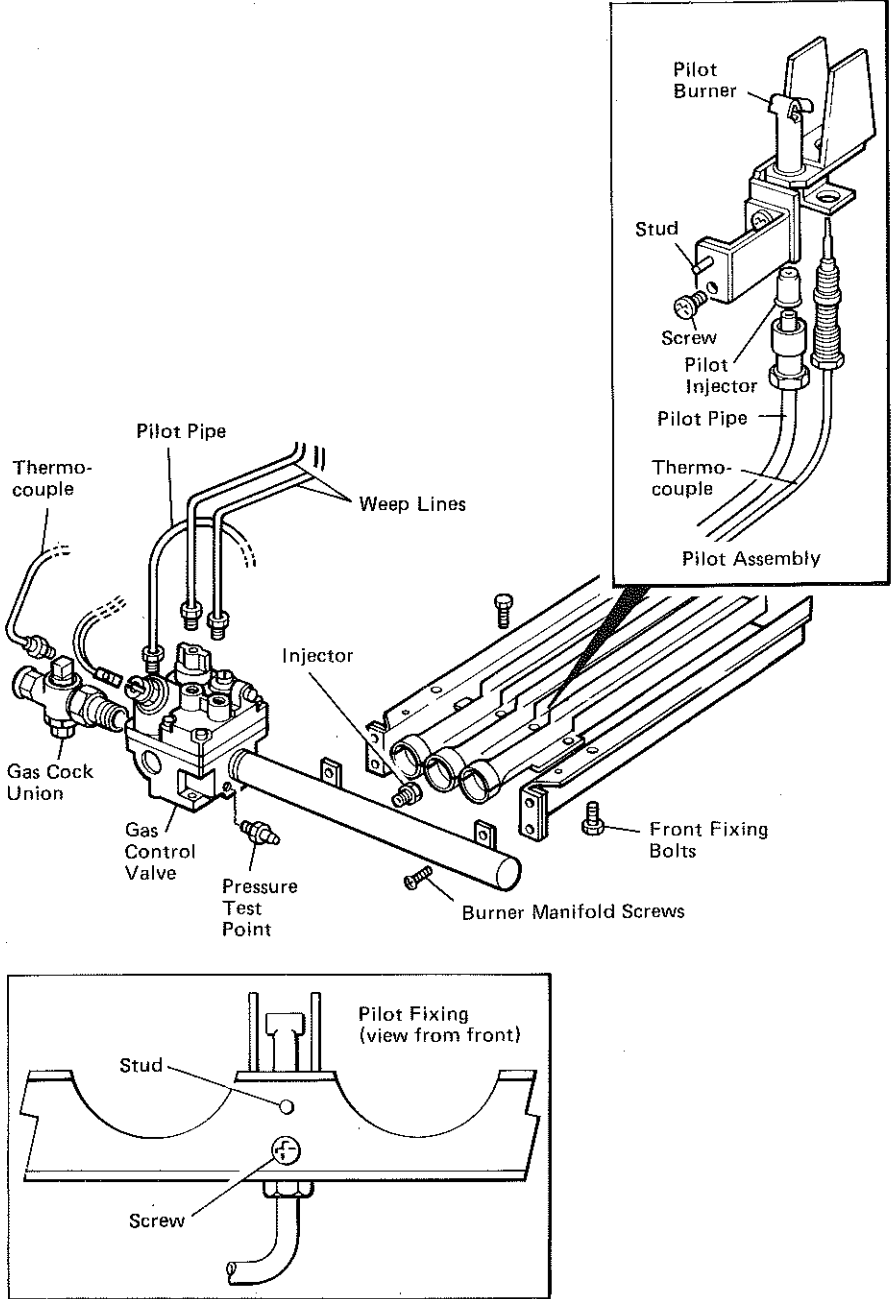

Fig. 20 Burner Assembly - Model 29/120
The burner assembly should be cleaned and checked annually as follows (see Figs 20 to 23, referring to the burner assembly).
8. Remove the burner and pilot injectors and clean in a suitable solvent, eg. acetone (see Figs. 20 to 23). **DO NOT ATTEMPT TO CLEAN BY PUSHING SHARP METALLIC ITEMS INTO ORIFICES. IF NECESSARY, USE A WOOD SPLINTER TO CLEAR.**
A. Gas Control Valve (See Figs. 20 to 23)